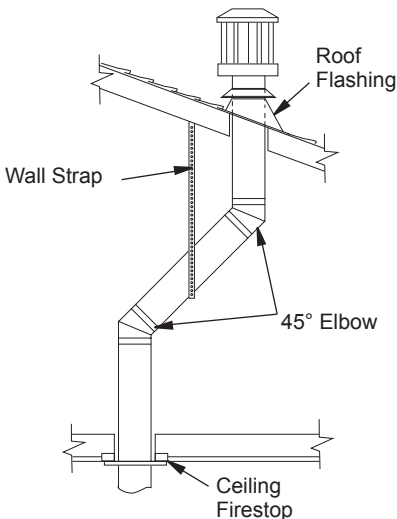

Figure 19 - Offset with Wall Strap and 45° Elbows
1. Determine route your vertical venting will take. If ceiling joists, roof rafters or other framing will obstruct venting system, consider an offset (see Figure 19) to avoid cutting load bearing members. Note: Pay special attention to these installation instructions for required clearances (air space) to combustibles when passing through ceilings, walls, roofs, enclosures, attic rafters, etc. Do not pack air spaces with insulation. Also note maximum vertical rise of venting system and any maximum horizontal offset limitations.
Note: If an offset is needed to avoid obstructions, you must support vent pipe every 3 feet. Use wall straps for this purpose (see Figure 19). Whenever possible, use 45° elbows instead of 90° elbows. The 45° elbow offers less restriction to the flow of flue gases and intake air.
5. Place flashing over pipe section(s) extending through roof. Secure base of flashing to roof and framing with roofing nails. Be sure roofing material overlaps top edge of flashing as shown in Figure 19. There must be a 1" clearance from vent pipe to combustible materials.